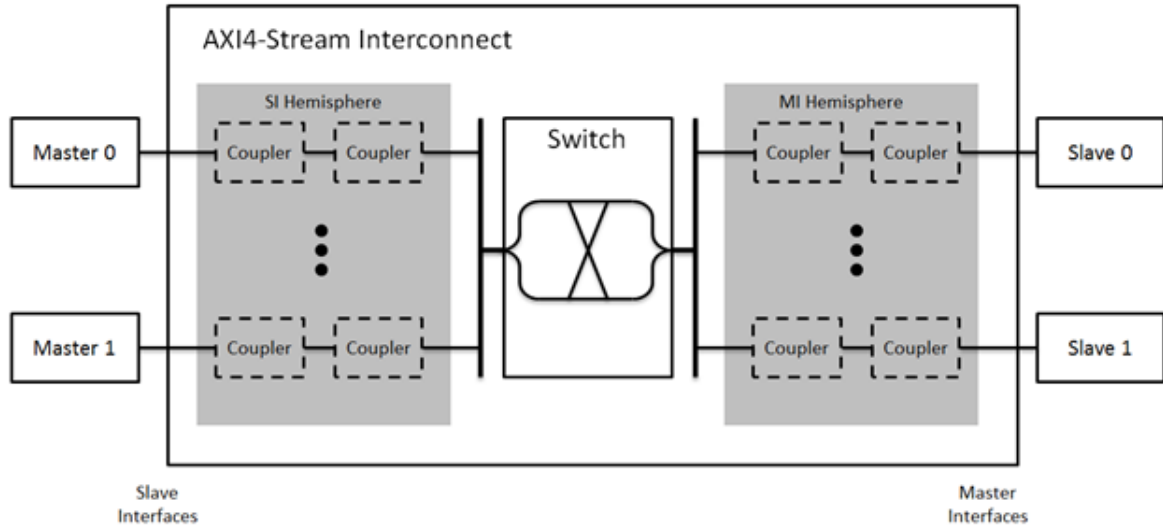

Figure 4-13: AXI4-Stream Interconnect
Figure 4-13 shows the top-most AXI4-Stream Interconnect core block diagram. Inside the AXI4-Stream Interconnect, an AXI4-Stream Switch core routes traffic between the Slave Interfaces (SI) and Master Interfaces (MI). Along each pathway connecting a SI or MI to the Switch, an optional series of AXI4-Stream Infrastructure cores (couplers) can perform various conversion and buffering functions. The couplers include: AXI4-Stream Register Slice, AXI4-Stream Data FIFO, AXI4-Stream Clock Converter, AXI4-Stream Data Width Converter and AXI4-Stream Protocol Converter.